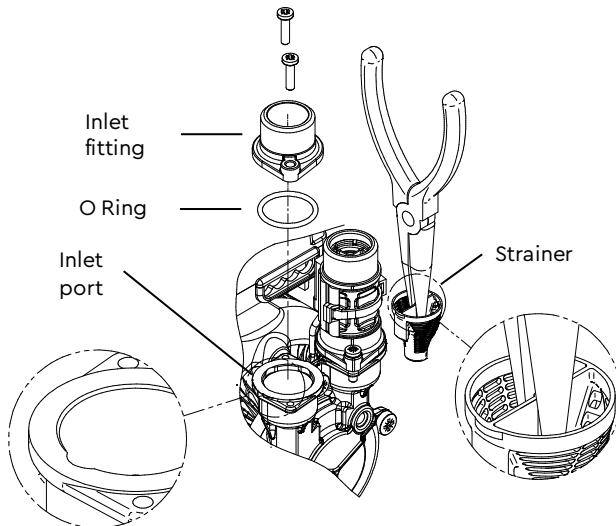

Figure 16
4. Remove M4 screws (2 off) from inlet assembly, lift brass inlet fitting (with O-ring) away from pump casing (Figure 16).
5. Remove strainer with long nose pliers noting location lug position upon removal (Figure 16) and clean thoroughly.